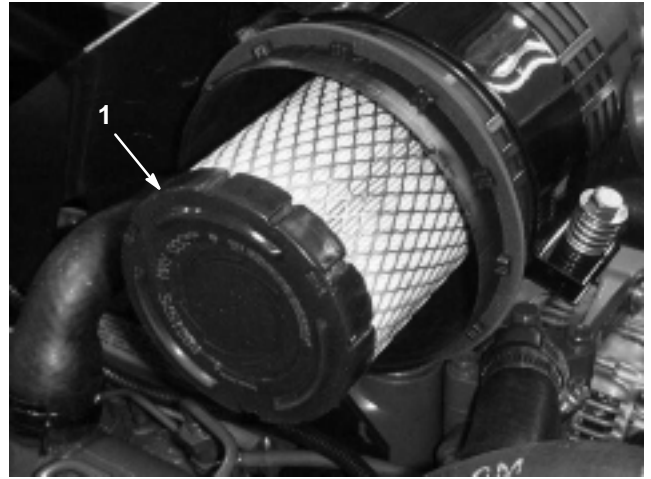

Figure 43
3. Inspect the filter (Fig. 43) and discard it if it is damaged. Do not reuse a damaged filter.